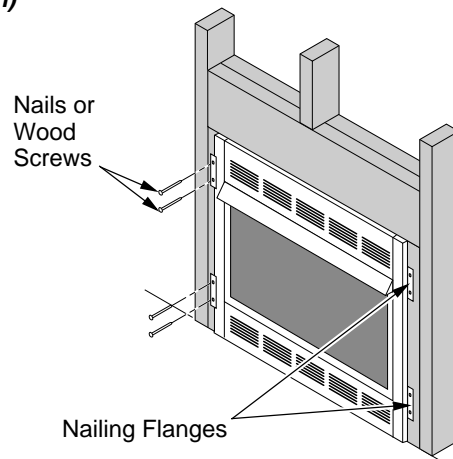

Figure 19 - Attaching Fireplace to Wall Studs (FPVF33PRA Shown)
14. Attach fireplace to wall studs using nails or wood screws through holes in nailing flange (see Figure 19).